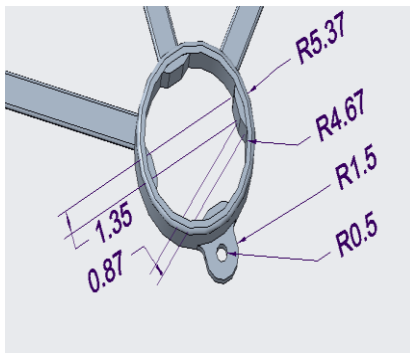
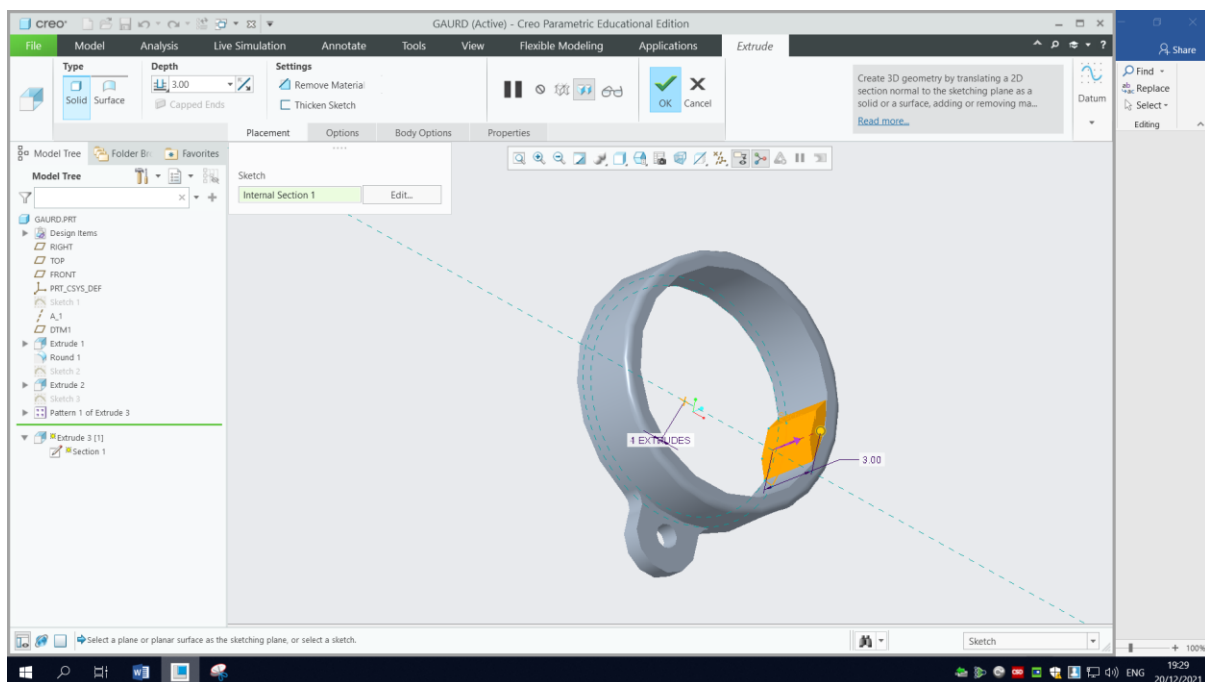

fig 1.1
fig1.3
- Select a plane and extrude the object shown in fig1.3 taking dimensions from fig1.1. The extrusion needs to be done in a series so portion 1 is extruded to a height of **3.1 mm**, portion 2 extruded to a height of **0.8mm** and portion 3 to a height of **3mm** (**None of the extrusions are symmetric**).